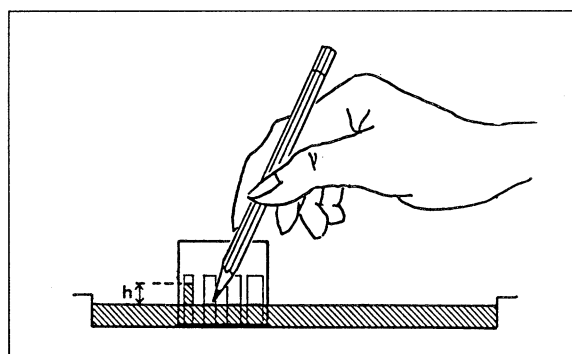

Fig. 3 Marking the liquid levels.
9. Note down the level of the liquid in the balance pan and in the individual tubes (fig. 3).